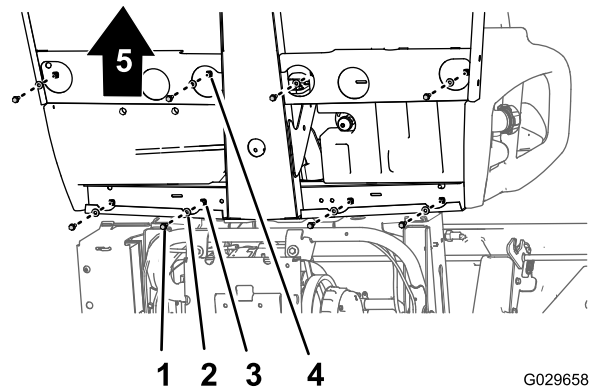
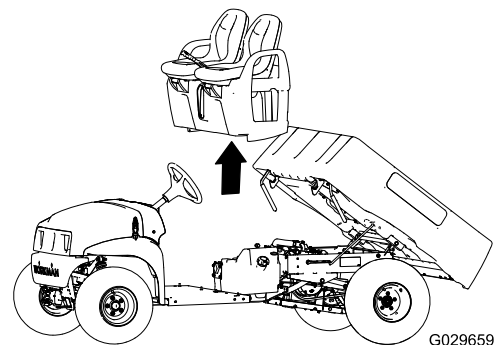

Figure 43
Figure 44
1. At the bottom of the machine, remove the 8 flange-head bolts and 8 washers that secure the seat base to the floor plate and rear-cab channel (Figure 43).
2. Carefully lift the seats, seat base, and parking brake cables from the machine (Figure 43).
1. Lift the seats and seat base onto the machine and align brake cables to the chassis (Figure 43 and Figure 44).
2. Align the holes in the seat base with the holes in the floor plate and rear-cab channel (Figure 43 and Figure 44).